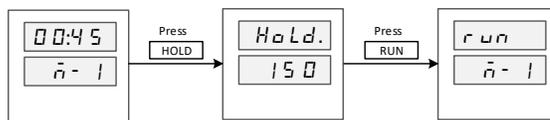

Figure 11. Operations to pause and to resume the step-timer.
c) Pause the timer. When the temperature reaches the timer-start-point, the step-timer will start counting down time. The user can manually pause the timer by short-pressing the HOLD key. When the timer is paused, the top window will show “Hold.” To resume the current step-timer, press the RUN key shortly and the controller will show “run” in its top window. The Figure 11 shows how to pause the timer.